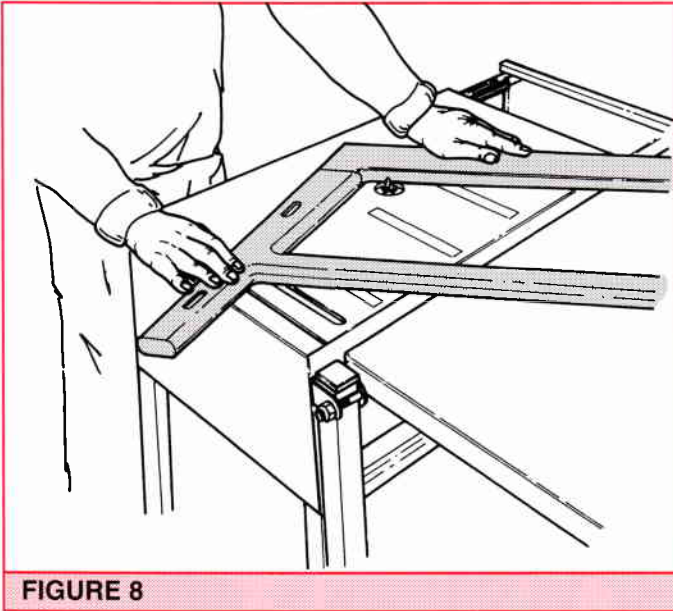

FIGURE 8
10 For an improved appearance fit your beading bit to your router and bead all edges of the assemblies except the upper-most edges of (A) which will be in contact with the armrest. (And of course don't bead the bottom "feet" edges of (B) and (C)). Also finish all the long edge of the crossbraces (E) with the beading cutter and all long edges of the backstop (F). Figure 8 shows the procedure. Note the Extension Table used to provide additional workpiece support.